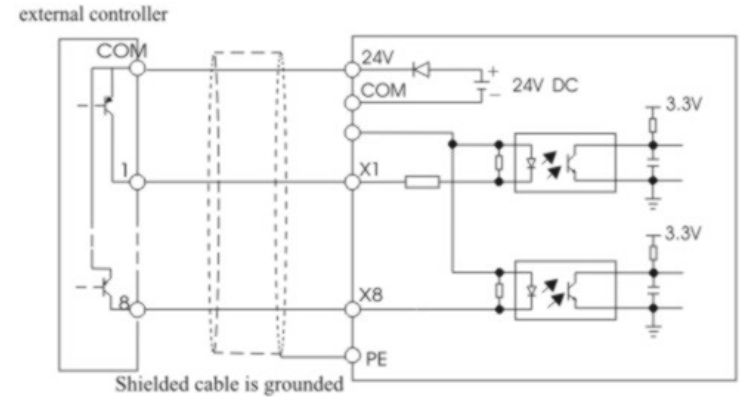

Fig. 3-9 Drain connection of using frequency converter's internal +24 power
2)Use the internal +24V power of the frequency converter; the external controller connects PNP-shape emitter and supports its output. Please refer to Fig. 3-9.